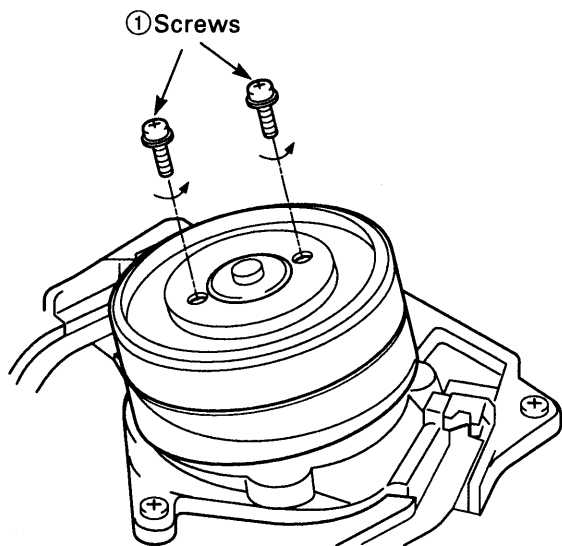

Fig.3-5-1
(See Figs. 3-5-1, 3-5-2, 3-5-3, 3-5-4)
- 1) Remove the two screws ① (See Fig.3-5-1).